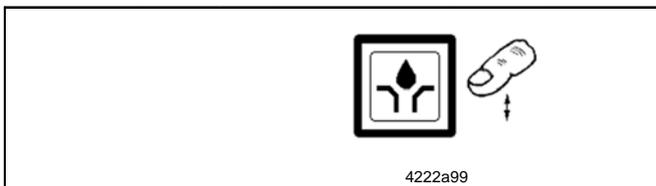

Fig. 30 Key for resetting the pause time
- is triggered via the button (Fig. 30). Press the button for 2 seconds.
Continuation of fig. 30: Key for resetting the pause time and terminating the programming mode